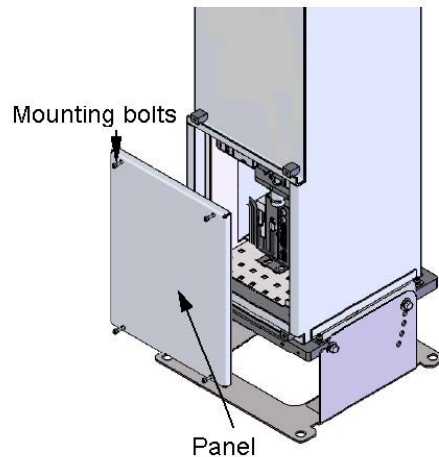

FIGURE 7-2. Removing the enclosure lid
1. Remove the four screws (FIGURE 7-2 (p. 105))